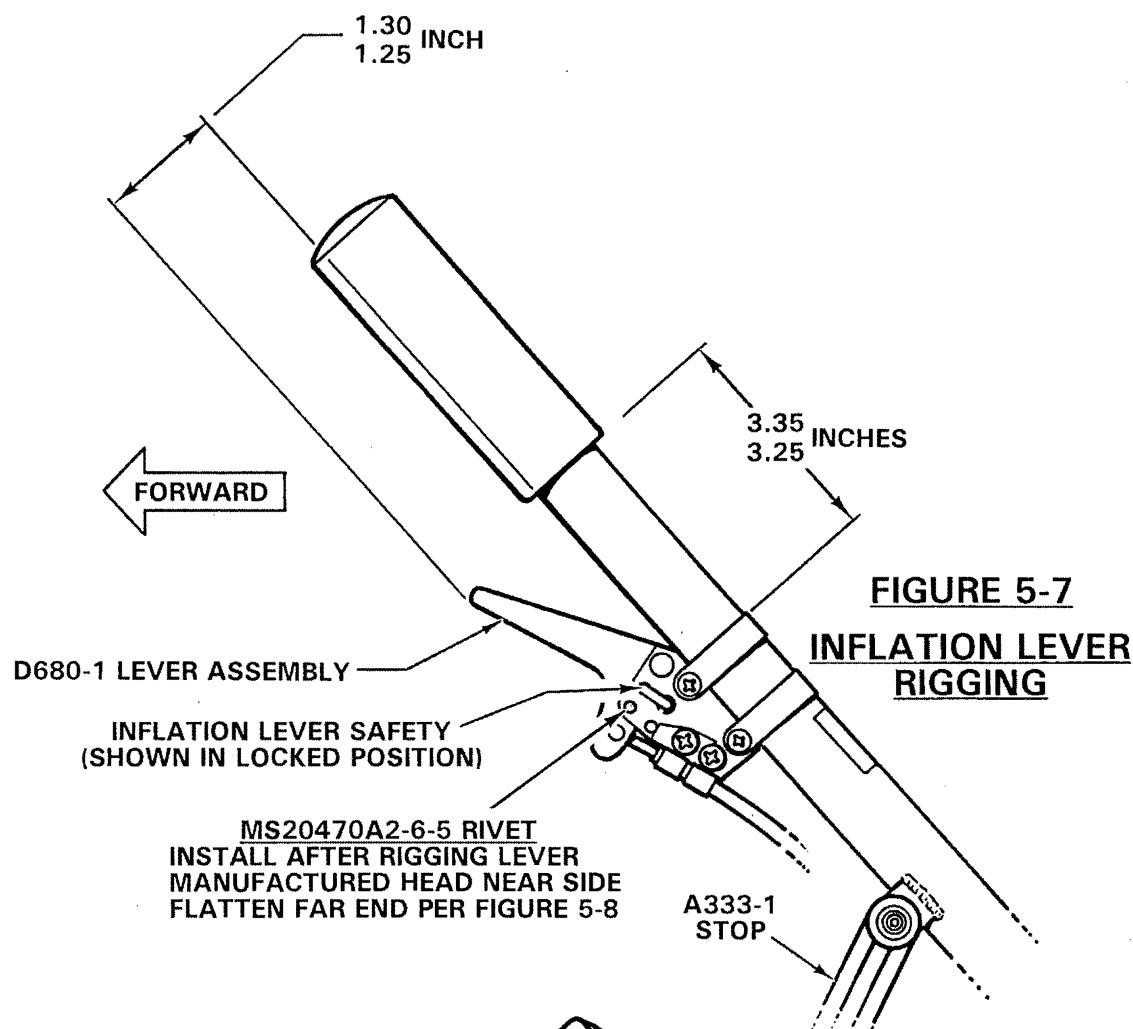

FIGURE 5-7
2. See Figure 5-7. With inflation lever safety in READY position, collective full up, and no shear-rivet installed, verify 1.30/1.25 inch dimension shown when inflation lever is squeezed to eliminate slack. If required, reposition cable housing in clamps at inflation lever to obtain 1.30/1.25 inch dimension.
3. See Figure 5-7. Place inflation lever safety in LOCKED position.
4. Insert MS20470A2-6-5 (or MS20470A2-6.5) rivet per Figure 5-7.